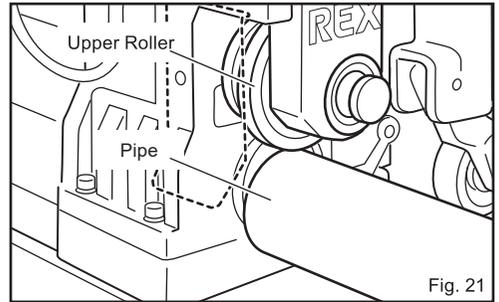

Fig. 21
1. Preparing to process the pipe (Fig. 21)